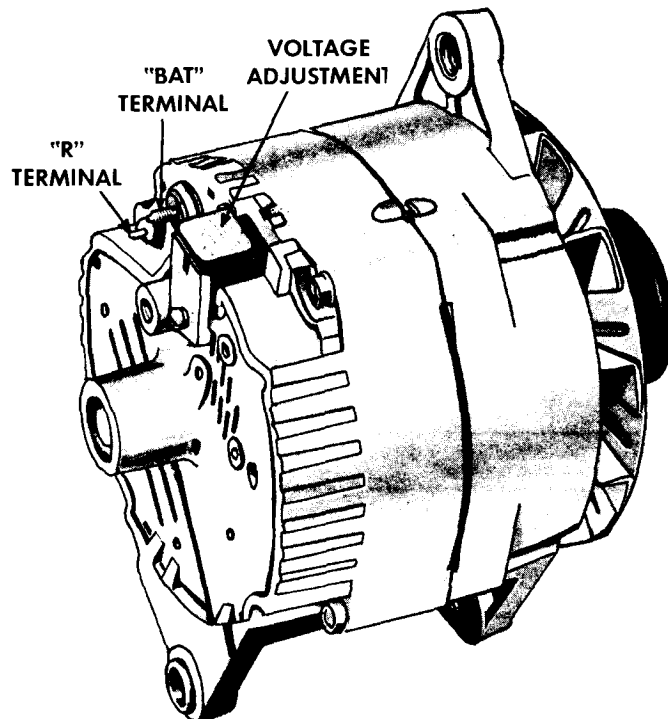
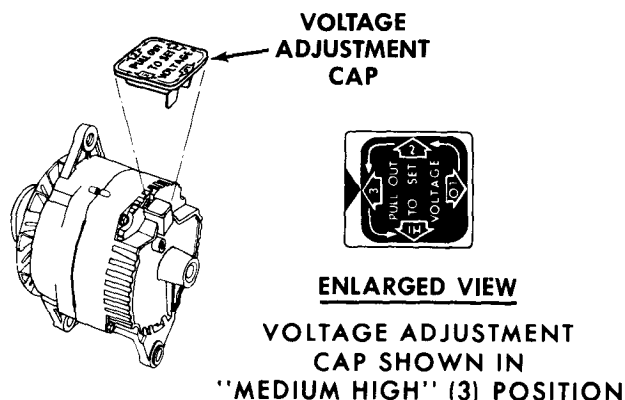

Figure 1—Typical 27-SI Series Integral Charging System.
Figure 5—Voltage adjustment cap.
IMPORTANT: The rotor normally retains magnetism to provide voltage build-up when the engine is started. After disassembly or servicing, however, it may be necessary to reestablish the magnetism. To magnetize the rotor connect the Integral Charging System to the battery in a normal manner, then momentarily connect a jumper lead from the **battery positive post to the Integral Charging System relay terminal**, identified in Figure 1. This procedure will restore the normal residual magnetism in the rotor.
The Integral Charging System illustrated in Figure 1 features a solid state regulator that is mounted inside the slip ring end frame. The regulator voltage setting can be adjusted externally by repositioning a voltage adjustment cap in the slip ring end frame. This feature is covered in detail in Figure 5. Only one wire is needed to connect the Integral Charging System to the battery, along with
- g. As illustrated in Figure 5, the cap is set for medium high voltage. With position 2 aligned with the arrow, the setting is medium low, position "LO" is low and position "HI" is the highest regulator setting.